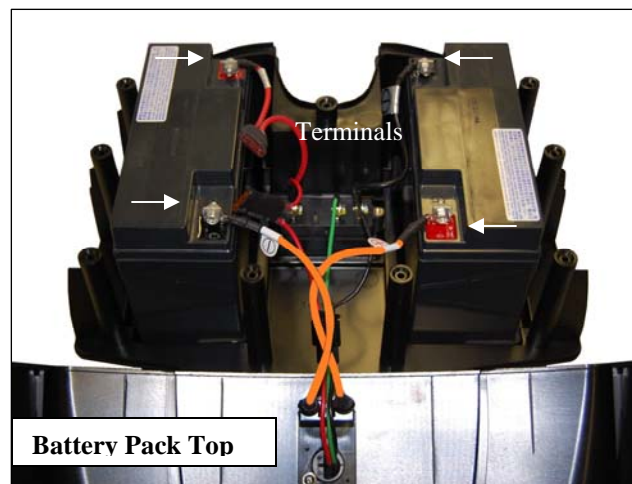

Figure 33. Inside Battery Pack
7. Turn the battery pack over so that the screw holes are facing down and remove the top of the of the battery pack. **See figure 33.**
12. Place a new battery into the bottom half of the battery pack. Make sure that the terminals are facing as shown. **See figure 33.**
14. Place the second new battery into the bottom half of the battery pack with the terminals facing as shown. **See figure 33.**